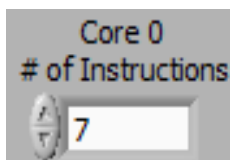

Figure 4: PulseBlasterESR
- Number of Instructions This field, shown in Figure 4, determines how many instructions will be implemented. There is one field for each core, so each core can have a different number of instructions. Once the number of instructions is entered, that many instructions will appear in the array for that particular core.